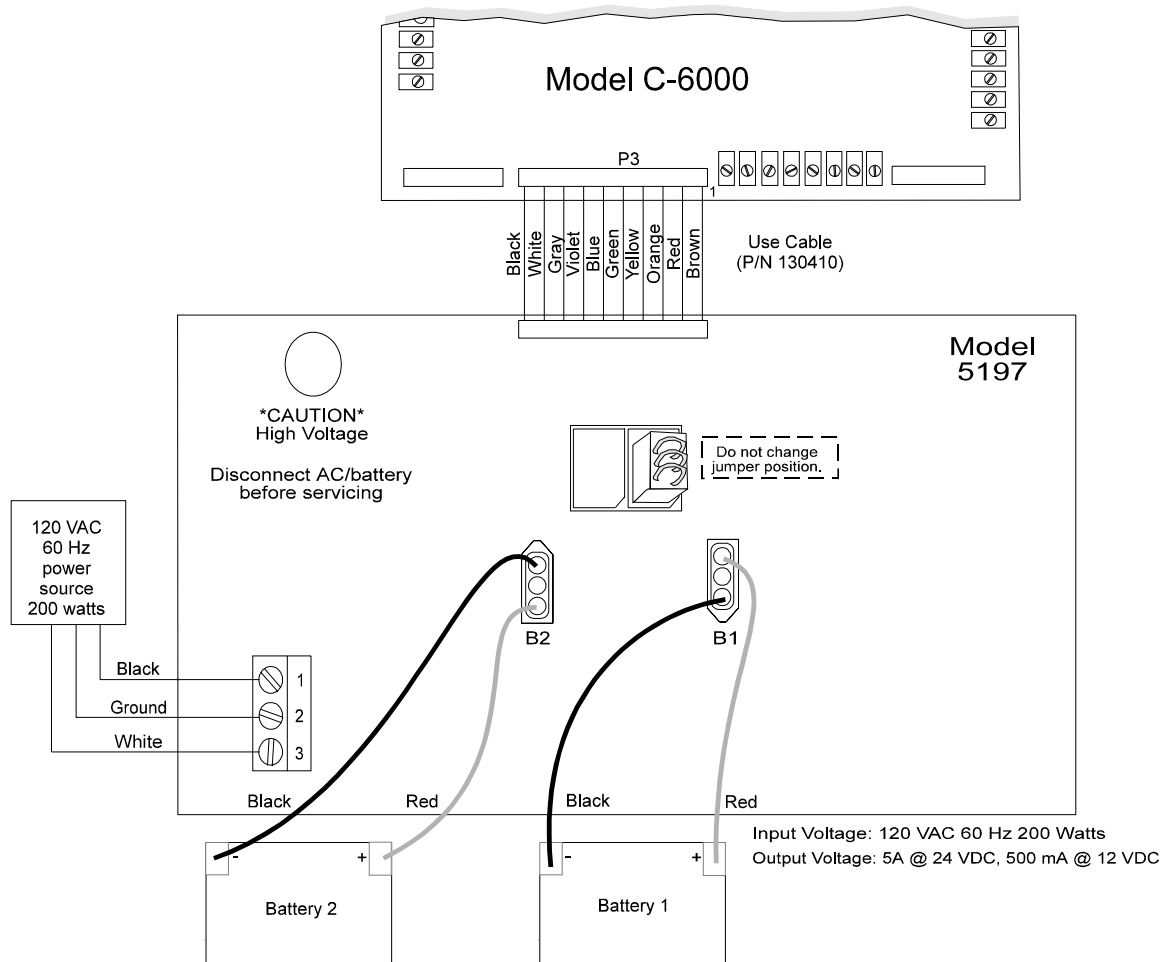

Figure 3-6. Model 5197 Power Supply Installation
The C-6000 is connected to the 5197 power supply at the factory. These connections are shown in Figure 3-6 in case you should ever need to repair or troubleshoot the 5197 in the field.
At installation, connect the 5197 to 120VAC source as shown in Figure 3-6. (It may be necessary for a professional electrician to make this connection.)
Two 12 VDC, 17 AH rechargeable batteries can be used with the system. Connect as shown in Figure 3-6, matching red battery leads to the positive side of the battery and black leads to the negative side of the battery. Silent Knight recommends that both batteries be of the same ampere (AH) rating and approximately the same age.